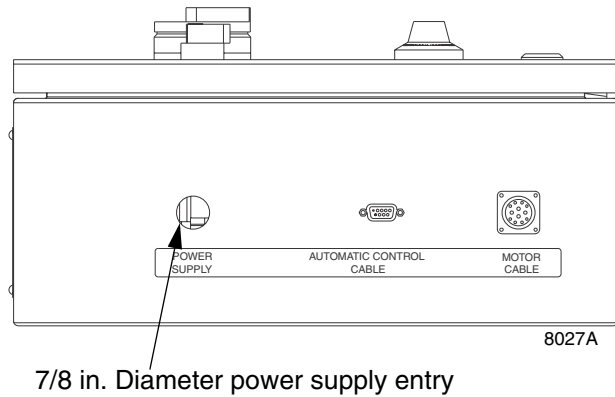

FIG. 6
2. Locate the opening on the bottom of the control assembly, labeled POWER SUPPLY. See FIG. 6.